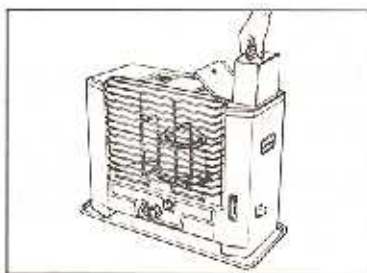
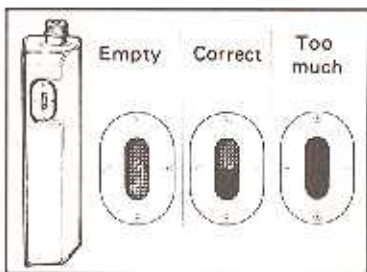

Fig. 2
Fig. 3
- (1) Shut off the heater. Do not refuel while burning.
- (2) Remove the cartridge tank and refuel. (Fig.2)
- (3) Use either a siphon or a funnel to fill the tank.
- (4) Watch the fuel gauge when fueling.
- (5) Stop filling when the fuel level reaches the center of the fuel gauge. (Fig.3)
- (6) Tighten the filler cap firmly.
- (7) Reset the cartridge tank in the heater. Improper seating will not allow the tank cover to close.
- (8) Wipe off any kerosene overflow.